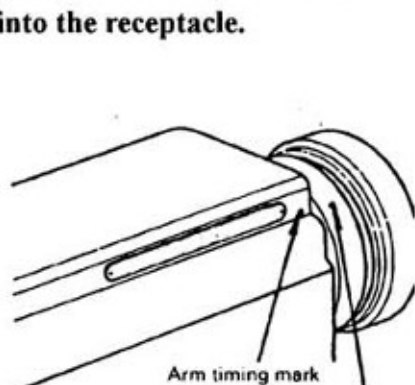
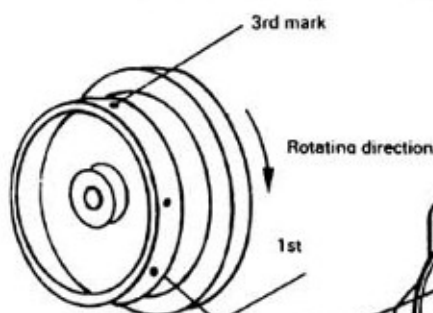
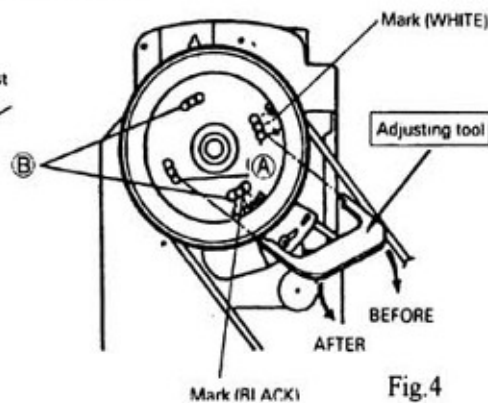

Fig.2
Fig.3
Fig.4
4. Adjustment of needle bar stop position (Fig2, Fig3, Fig4):